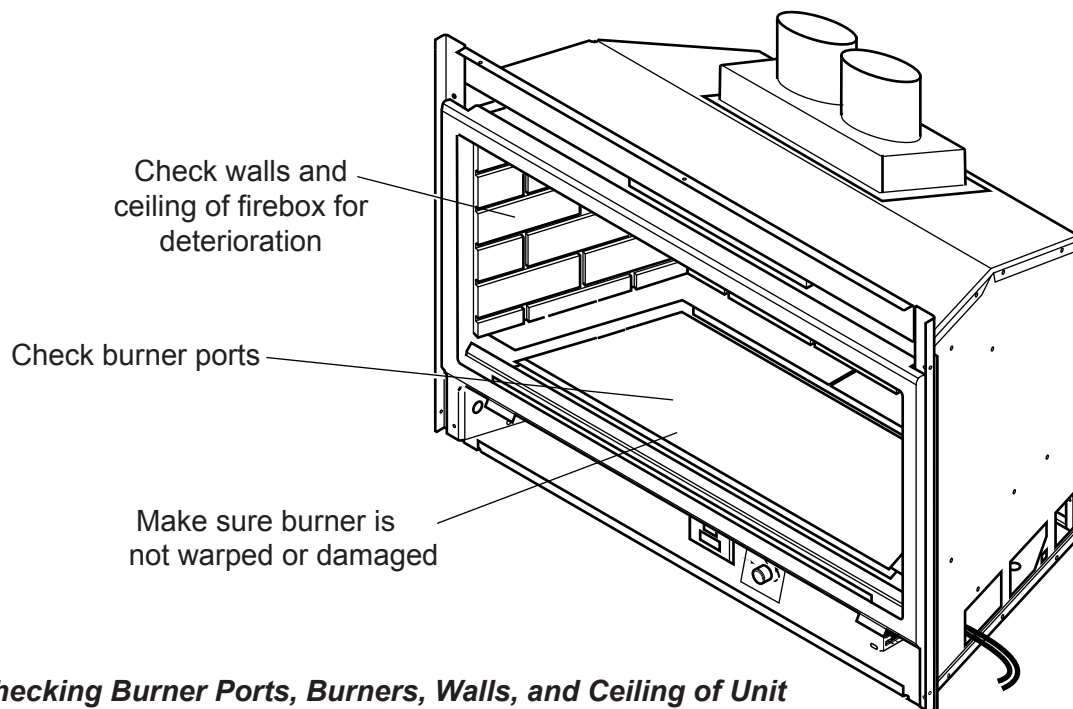

Figure 40 - Checking Burner Ports, Burners, Walls, and Ceiling of Unit
4. Clean burner and burner ports. Inspect the following. *See Figure 40:*